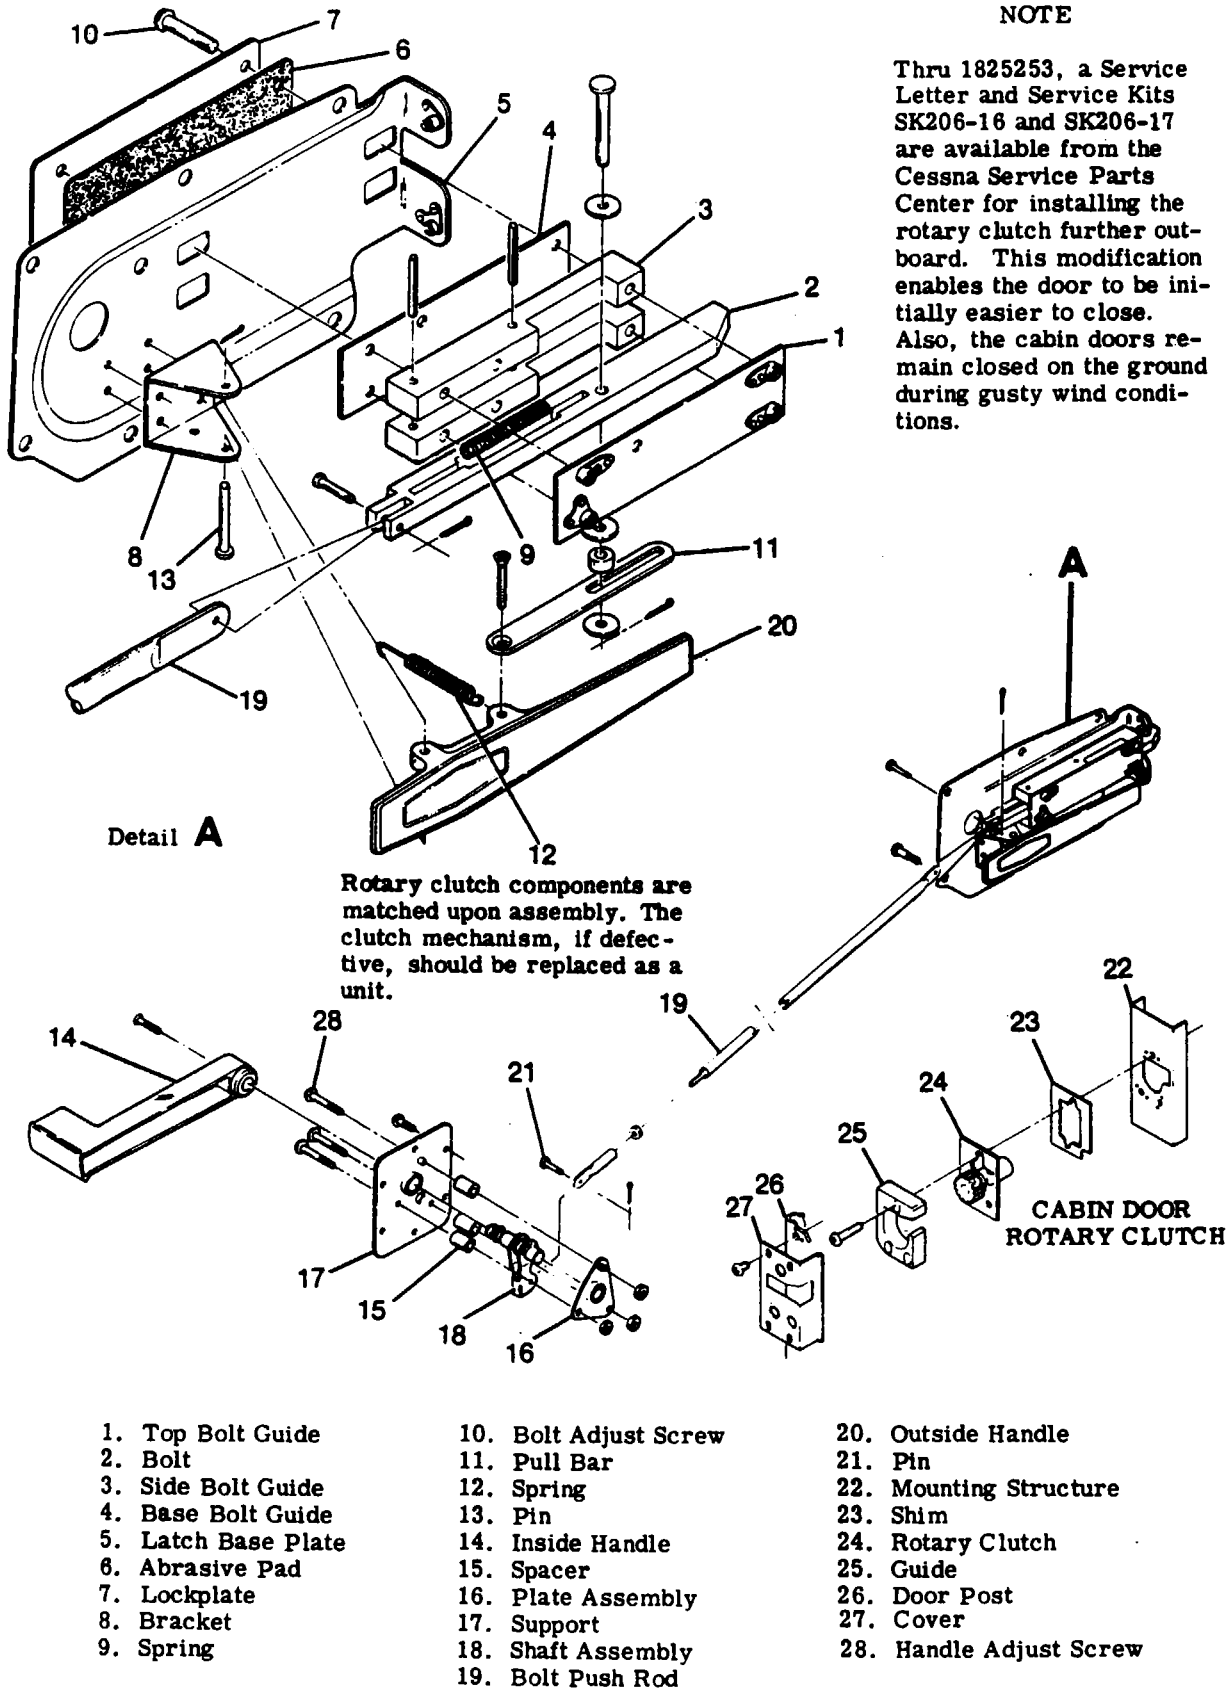

Figure 3-4. Door Latch and Rotary Clutch (Thru 18267715)
3-29. DOOR LATCHES. (Thru 18267715.) (See figure 3-4.)
3-32. INDEXING INSIDE HANDLE. (Thru 18267715.) (See figure 3-4.) When inside door handle is removed, reinstall in relation to position of bolt (2), which is spring-loaded to CLOSE position. Index inside handle in accordance with the following procedures.
- a. Temporarily install handle (14) on shaft assembly (18) approximately vertical.
- b. Move handle (14) back and forth until handle centers in spring-loaded position.
- c. Without rotating shaft assembly (18), remove handle and install door upholstery panel with door handle OPEN-CLOSE placard in place.
- e. Install handle (14) to align with CLOSE index on placard.
- f. Ensure bolt (2) clears doorpost and teeth engage clutch gear when handle (14) is in CLOSE position. The inside door handle fits into the arm rest when it is moved to the locked position. Install the handle on the serrated shaft so that the forward end on the handle is 8° 15' above the centerline of the handle shaft when in the locked position. A small amount of adjustment can be accomplished by loosening the shaft mounting bolts, and moving screw (28) in the slot to raise or lower forward end of the handle.